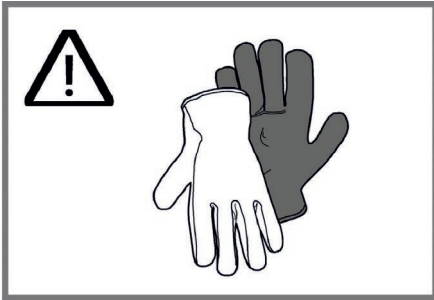

Fig. 20
- Parts inside the appliance may have sharp edges. Use protective gloves (Fig. 20).